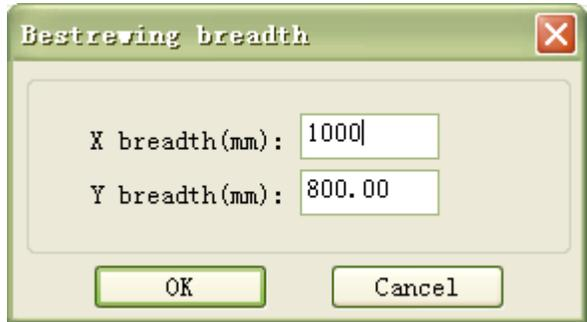

Figure 1-38
- ① Click on the *Bestrewing breadth* button, a menu as figure 1-38 will pop up:
- ② As shown in figure 1-38, input the actual *X breadth* (e.g.: 1000mm) and the *Y breadth* (e.g.: 800mm), click on the *OK* button.